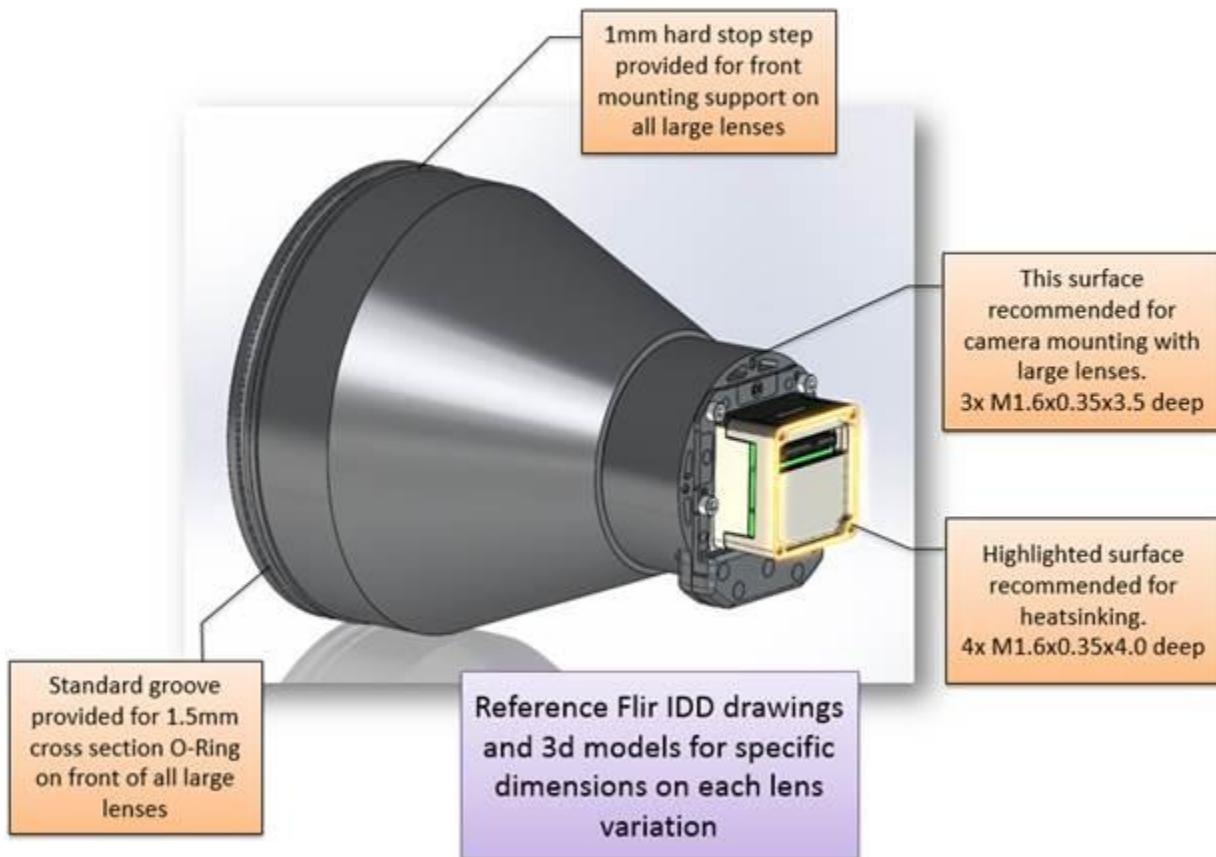

Figure 57: Mounting Guidance for Large-Lens Configurations
- **Lens Mounting:** Generally speaking, Boson should be supported at its lens for all Boson configurations for which the mass of the lens assembly is greater than the mass of the sensor engine. This condition is true for every lens which uses the M24 or M34 flange. (See Table 11 in Section 10). Each of those lens assemblies provides suitable features for mounting and sealing, as summarized in Figure 57. It is worth noting that even configurations which are mounted via the lens features require heatsinking via the rear surface. It is also worth noting that the correct orientation of the camera is with the connector located above centerline, as depicted in Figure 5. Rotating the camera 180 degrees such that the connector is below centerline rather than above will result in an upside-down image
Adequate heatsinking must be provided to prevent the Boson core from overheating, particularly when operated in temperatures approaching the upper temperature range of the device. The rear camera cover (highlighted surface in Figure 57) must be maintained at a temperature at or below 80C at all times. If the camera's internal core temperature exceeds its maximum safe temperature, Boson signals an overtemp condition, and by factory-default, enters a low-power non-imaging state 10 seconds later. See Section 7.2 for a detailed description of this feature.